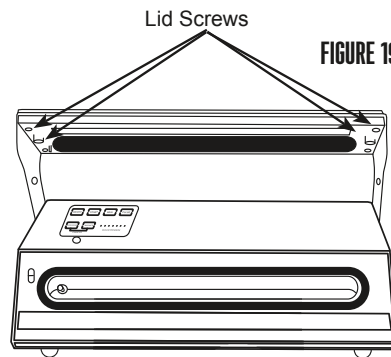

FIGURE 19
5. Using a Phillips-head screwdriver, remove the 4 Lid Screws in the Plastic Lid Base (**FIGURE 19**).